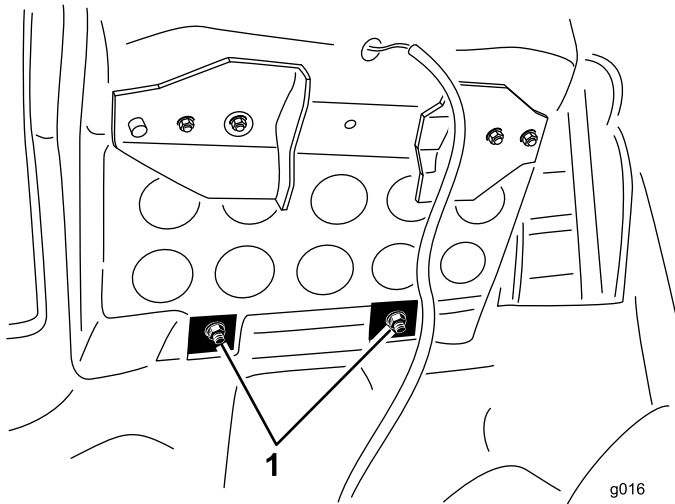

Figure 2
4. Underneath the platform, remove the M8 nuts and washers from the front seat bolts, as shown in Figure 2.